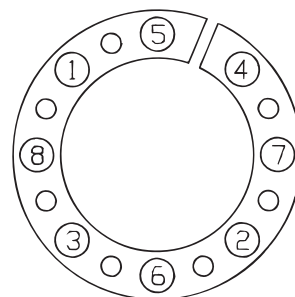

Fig. 9 Recommended screw tightening sequence
4. Tighten locking screws evenly in several stages to specified tightening torque (T_A), listed in table below or specification tables. Use diametrically opposite tightening sequence, however, with following exception: The two screws adjacent to the slit should be torqued one after the other to avoid possible distortion of the thrust rings, see Fig. 9.